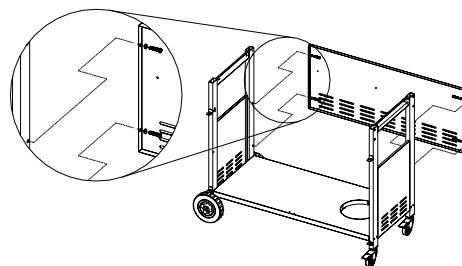

Figure 4
4. Attach the back panel to the cart legs using (4) $1\frac{1}{4} \times 3/5$ " Phillips head screws and (4) $\frac{1}{4}$ " lock washers. (Fig.4)